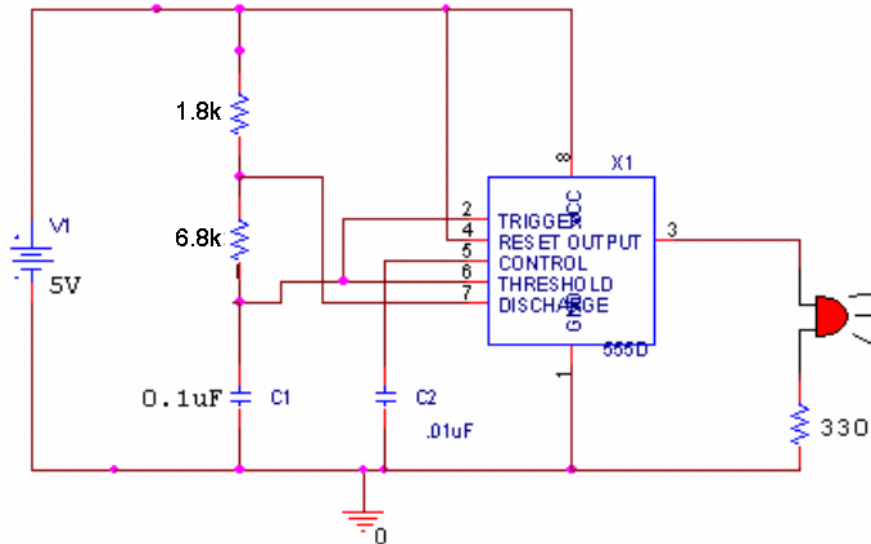

Figure D-8
- Wire the astable multi-vibrator shown in figure D-8 on your protoboard.